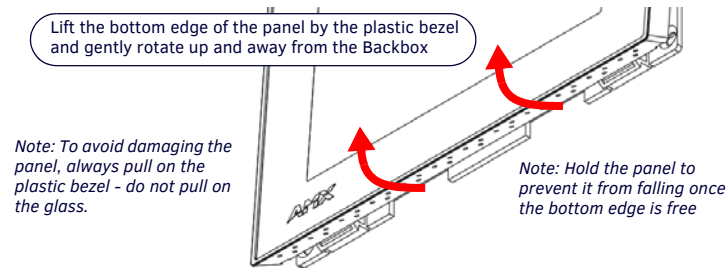

FIG. 8 MSD-431-L/BACKBOX ASSEMBLY (RELEASING THE BOTTOM EDGE OF THE PANEL)
- Grasp the bottom of the panel and pull gently outward until the side of the panel is free of the snap. Use your other hand to stabilize the front of the touch panel (FIG. 8):